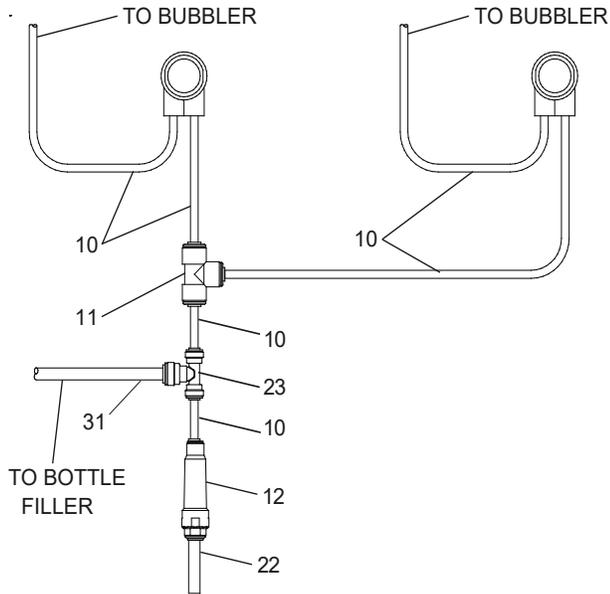

Figure 2 - EZWS-EDFP217K Tube Routing
- 3a. **(For EZWS-EDFP217K)** Install 3/8" tee, copper tubing and strainer per (Fig. 2).